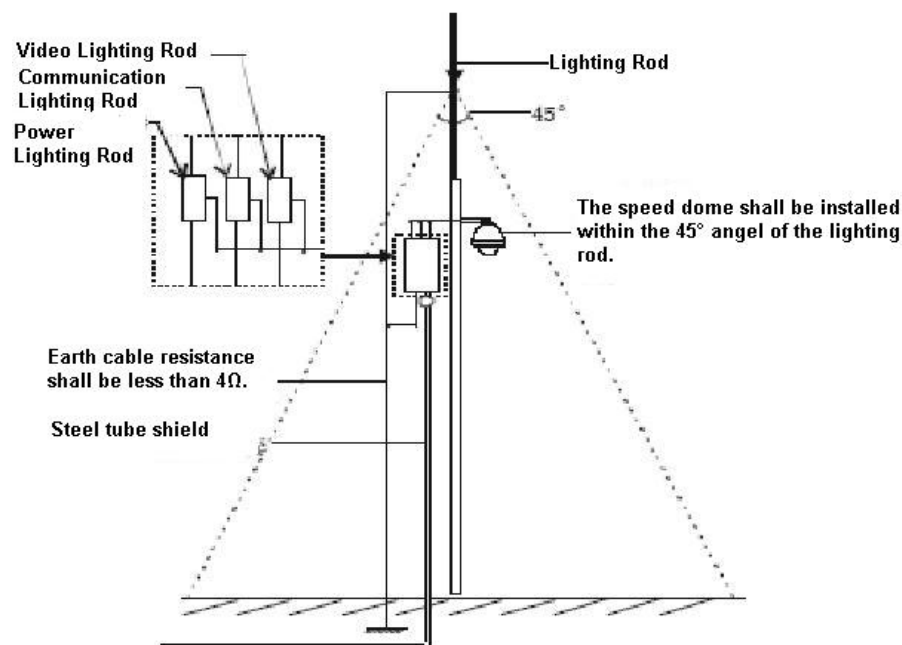

Figure 7-1
- z System shall adopt equal-potential wiring. The earth device shall meet anti-jamming and at the same time conforms to your local electrical safety code. The earth device shall not short circuit to N (neutral) line of high voltage power grid or mixed with other wires. When connect the system to the earth alone, the earth resistance shall not be more than $4\ \Omega$ and earth cable cross-sectional area shall below $25\ \text{mm}^2$. See Figure 7-1.